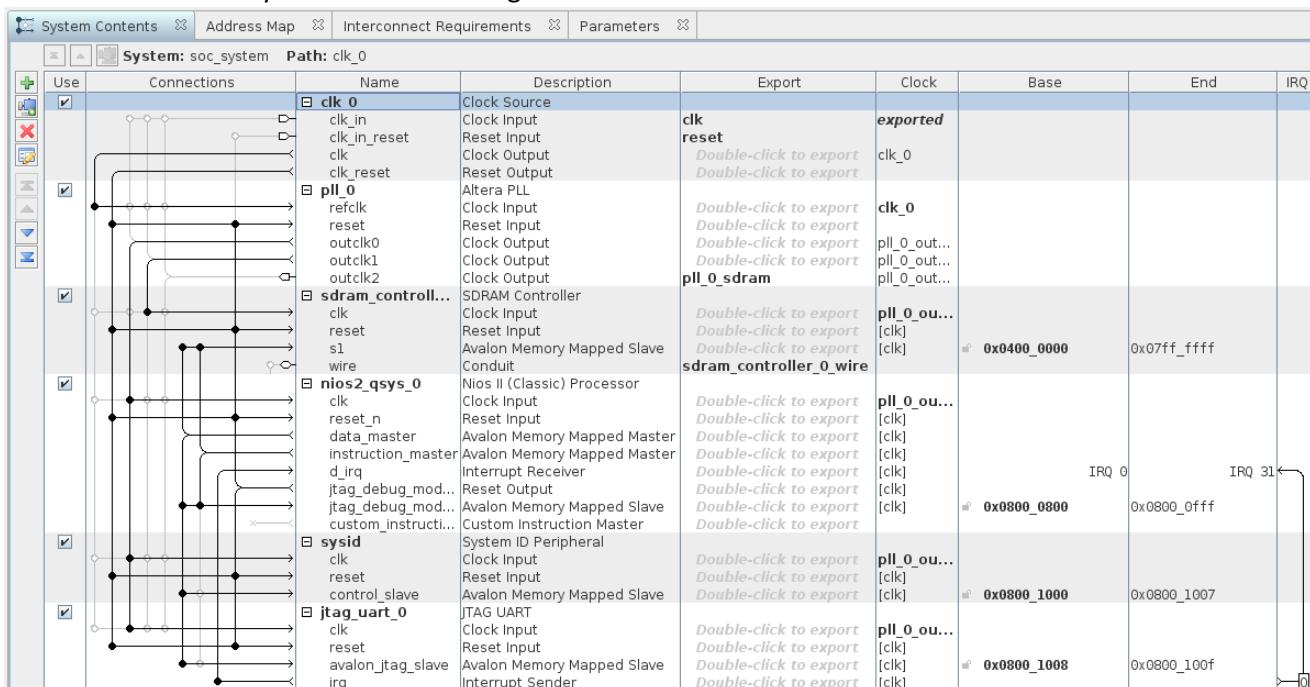

Figure 8-3. Basic Nios II System with SDRAM and JTAG UART
9. Connect the system as shown in Figure 8-3 below: